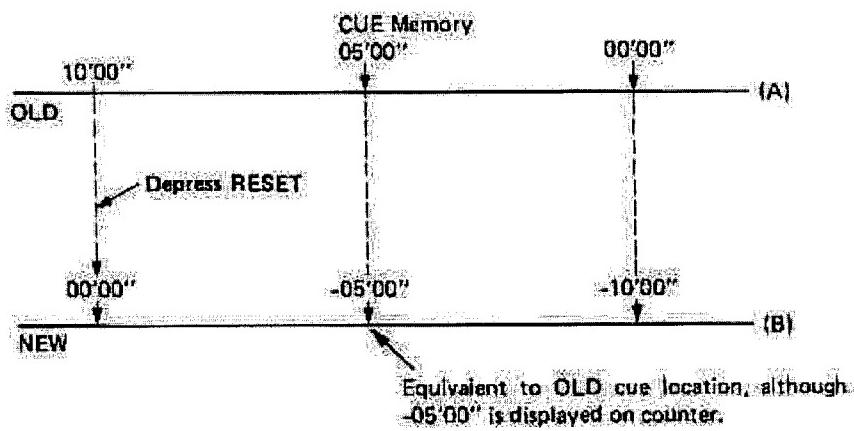

Fig. 8-7-4. Cue Point and Counter Reset
- * If the CUE button is not pressed in the STC mode, the counter reading of "00:00" is automatically registered as the CUE position. Once the cue point has been registered, it is held until the CUE button is set again, and is not affected by the counter reset button because the relative CUE position is not altered as shown in Fig. 8-7-4 when the counter reading is changed.